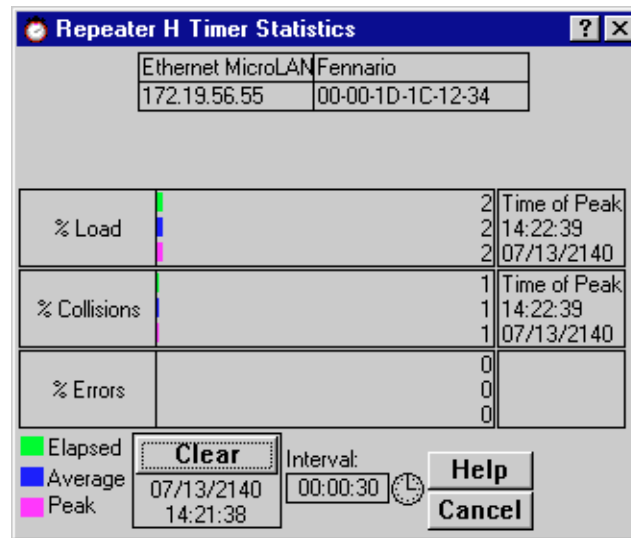

Figure 5-2. The Repeater Timer Statistics Window
3. Click on **Timer Statistics**. The Repeater Timer Statistics window, Figure 5-2, will appear.
The Board and Port Timer Statistics windows are similar to the Repeater Timer Statistics window displayed in Figure 5-2, except that they display statistics applicable to the board or the port.